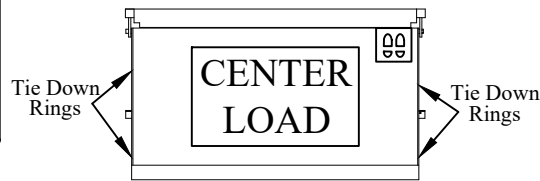

Figure 7: Step 10.
- Stand in the area indicated by the footprints in the figure below (Figure 7), keeping hands and feet away from the edges and any moving parts.